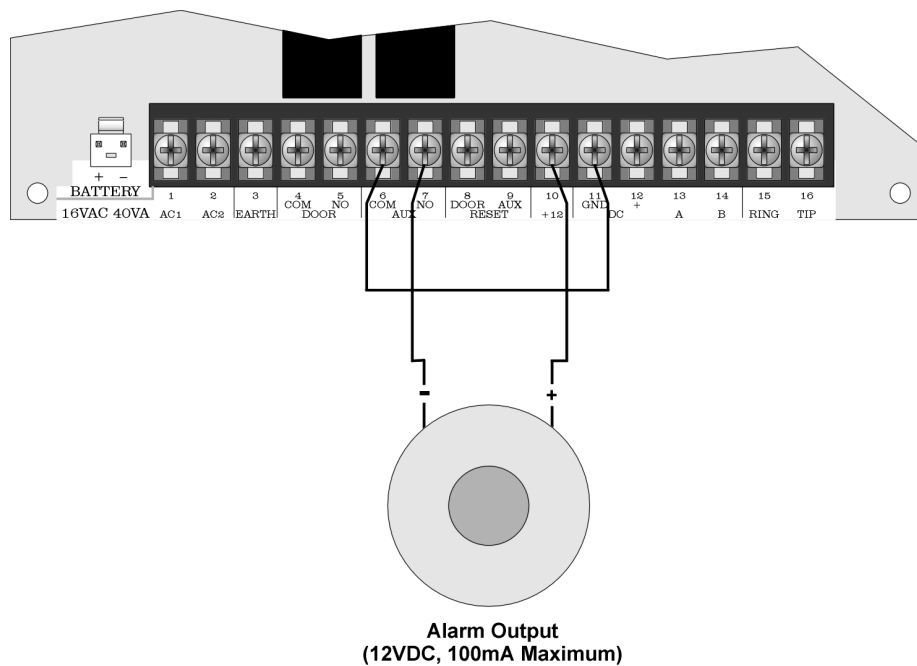

Figure 3-16 Sonalert/Piezo to 5083/5084 Control Panel Wiring Diagram
1. Connect a sonalert across terminals 7 and 10. (See Figure 3-16.)
2. Connect a jumper wire across terminals 6 and 11. (See Figure 3-16.)